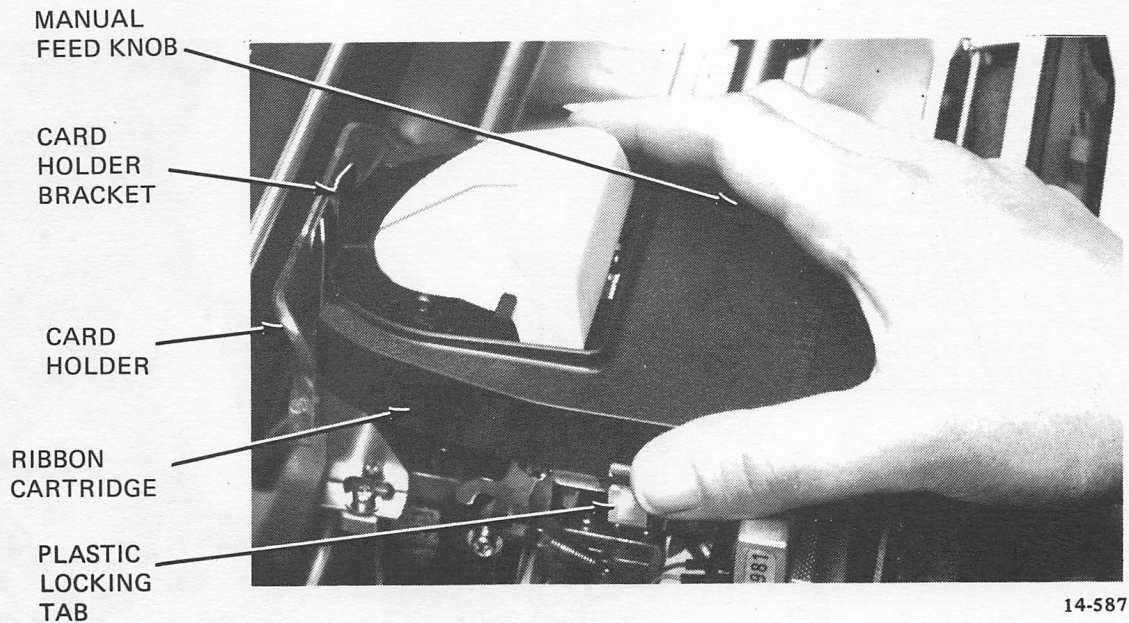

Figure 2-2 Ribbon Cartridge Removal
- b. Grasp the ribbon cartridge lightly and gently spread the two locking tabs that hold the cartridge in place. Lift the cartridge out (see Figure 2-2).